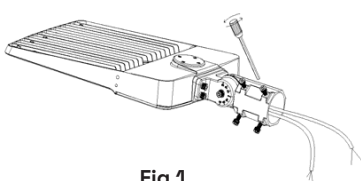

Fig 1
1. ADJUSTABLE FITTER MOUNTING (AM)
- Step 1: Loosen the 4 screws on the bracket with a screwdriver and make ensure that the bracket can fit into the light pole, Fig 1